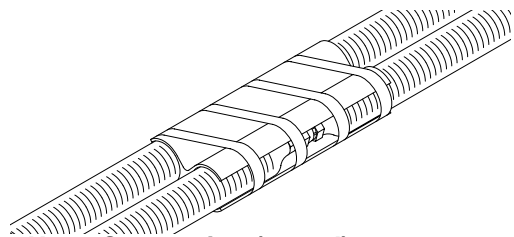

FIG. 11: Hose Connection (step d)
- d. Install isolator between chemical hose fittings. Use small amount of tape to hold in place. See FIG. 11.